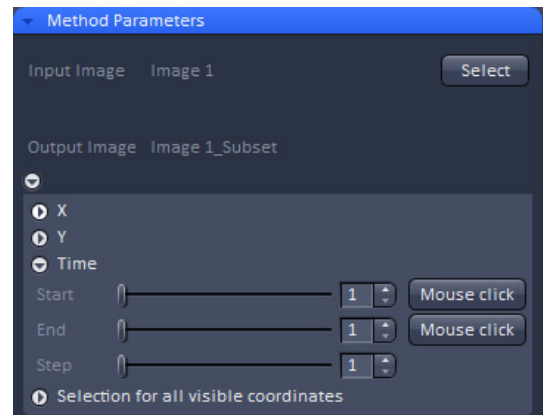

Fig. 508 Methods Parameter of the Copy Subset Processing tool
- Generate reference image. Using the Processing tool **Copy** select the duplicate time series in the submenu **Subset**. Using **Time** select your reference image, for example the first image or the center image, by choosing for the **Start** and **End** value the same number (Fig. 508). Press **Apply** to extract that image from the time series.